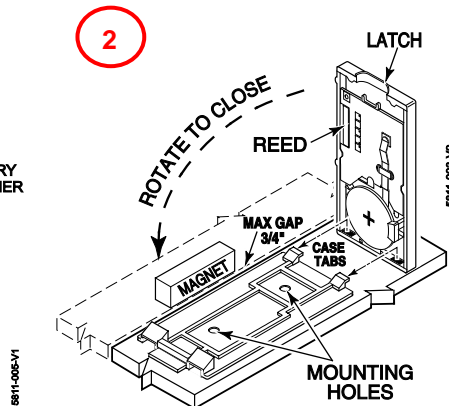

Figure 2: Mounting
2. **Mount the 5811 using double-faced tape** (supplied) by affixing it to the back of the unit and mounting the unit in place. Use screws (optional) if desired; see **figure 2**. Mount the magnet (supplied) near the alignment marks on the case (see Diagram).
3. Engage the case tabs (see **figure 2**), then rotate the housing to close. Engage the latch with firm pressure to close and lock.